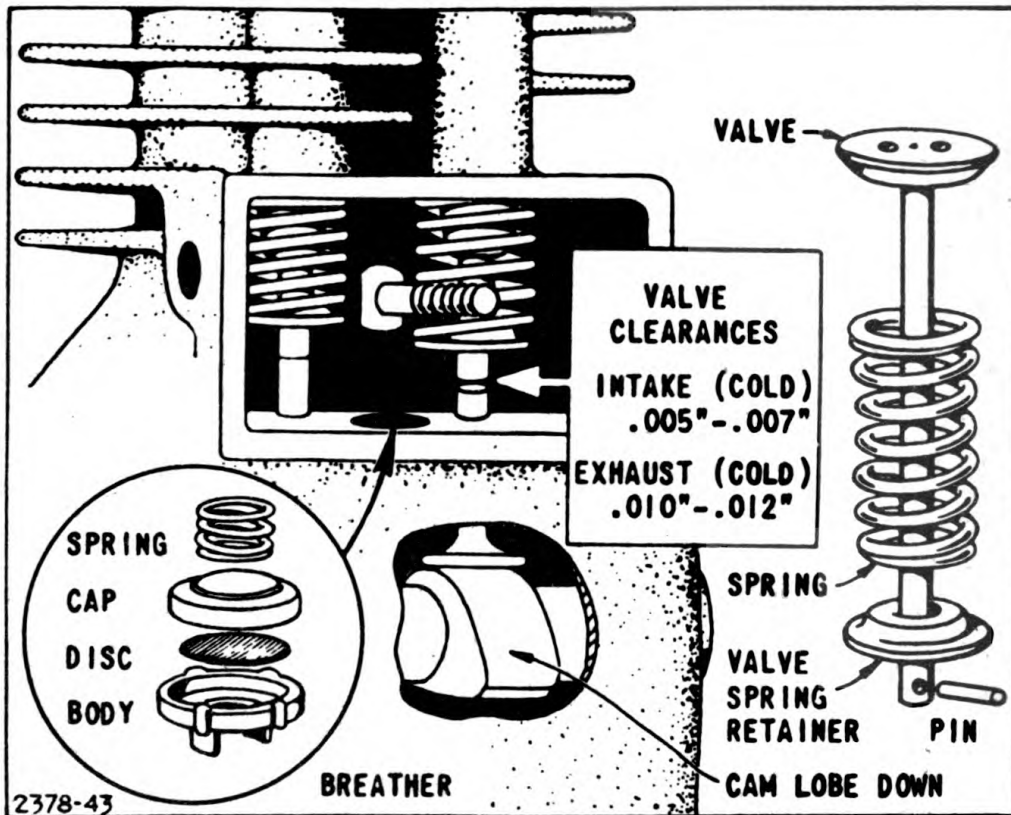

Figure 18.—Valve adjustments
28. VALVE ADJUSTMENT.—*a.* To check valve clearance, remove valve cover plate. The correct clearance on the exhaust valve is .007 to .009 inch and on the intake valve .005 to .007 inch when engine is cold (fig. 18). Tappet clearance is adjusted by grinding the ends of the valve stems. End of stem must be square with stem proper. Be careful to grind off only a little at a time.
29. BREATHER VALVE.—This engine is equipped with a breather valve to prevent pressure from forming in the crankcase (fig. 18). If this becomes clogged, it will cause oil leaks. Therefore, it is well to check and clean this valve whenever engine is taken apart for service. Wash parts in Diesel oil or cleaning solvent (Federal Specification P-S 661A) and re-assemble the parts in the order illustrated (fig. 18).